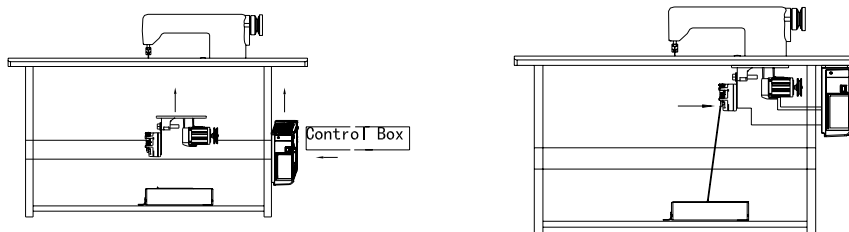

Fig.2-2
Step 2: Install the motor (see Fig.2-2) and then tighten the lifting bracket.